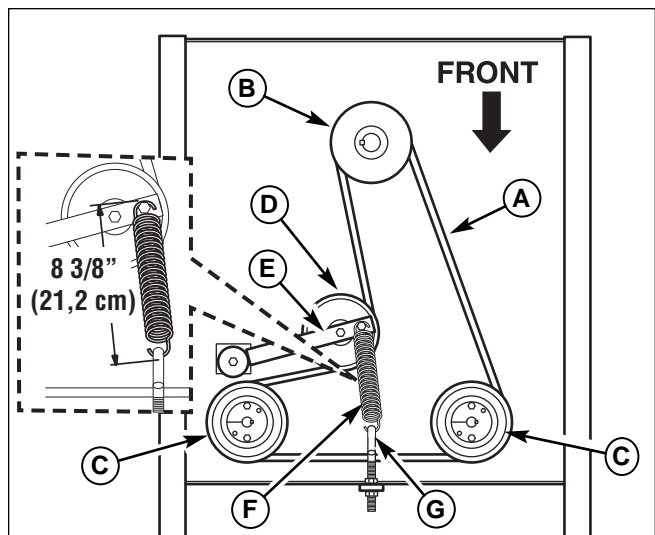

Figure 44. Hydraulic Pump Drive Belt Replacement
4. Loosen the nut towards the front of the machine on the spring anchor hook (G, Figure 44) to release the majority of the belt tension. Use caution and remove the nut to completely release the tension.
6. Reinstall the anchor hook (G) into the anchor tab and loosely fasten the nut. Adjust the anchor hook until a measurement of 8-3/8" (21,2 cm) is achieved from the outside of the spring hooks. Tighten nut.